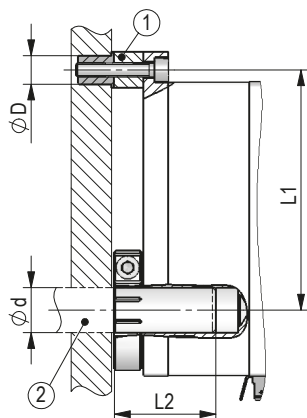
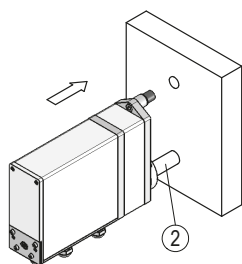
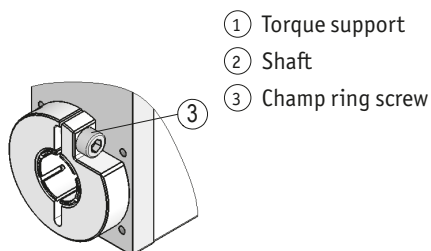

Fig. 1: Mounting dimensions
Fig. 2: Mounting
Fig. 3: Fastening torque for screws
- ▶ Ensure a low shaft and angle offset between shaft and accommodation bore by applying appropriate manufacturing methods (see Fig. 1 + Tab. 1).
#### Preparing mounting (Fig. 1, Fig. 2, Fig. 3):
#### Mounting (Fig. 1, Fig. 2, Fig. 3):